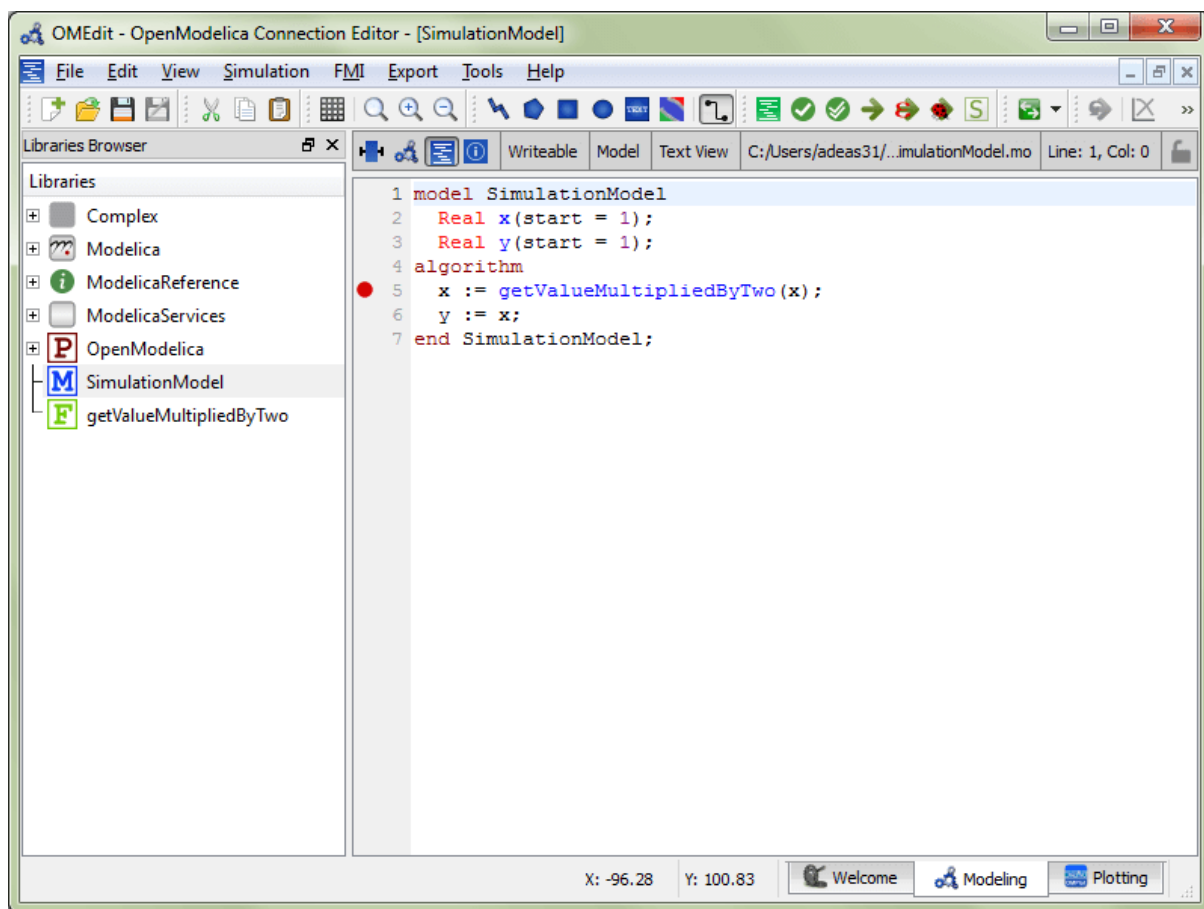

Figure 9.3: Adding breakpoint in Text View.
- Click directly on the line number in Text View, a red circle is created indicating a breakpoint as shown in Figure 9.3.